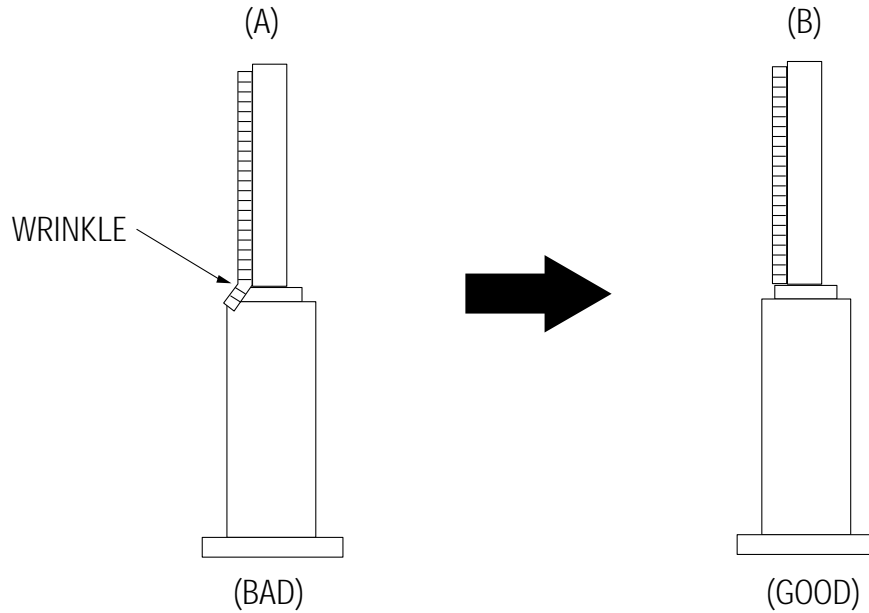

Fig. 6-12 Tape Guide Check
- 2) Confirm that there is no curl or wrinkle at the lower flange of tape guide as shown in Fig. 6-12 (B).
- 3) If a curl or wrinkle of the tape occurs, slightly turn the screw (A) tilt adjust on the ACE head ass'y.